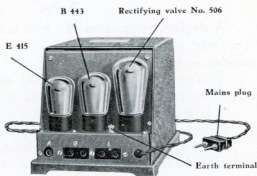

Fig. 2
The cover is first removed by pushing it backwards and then lifting it out. The earth terminal indicated by sign "⏏" is connected to earth. The diagram (fig. 2) shows where the valves, packed with the set, are to be installed, after which the cover is replaced.
The aerial must be connected to socket "A" (fig. 2) with the aid of the plug which is supplied with the set. The loudspeaker is plugged into the 2 sockets on the right hand side marked
"L" (fig. 2). The two pin mains plug is then inserted into a mains socket.
The pick-up must be connected to the 2 sockets marked "G" (see fig. 2). Knob "T" is then turned as far as possible in the direction opposite to that of arrow and plug "V" inserted into position 1. The aerial must be disconnected.
The tone filter (A) is connected between loudspeaker and receiving set by plugging it into sockets "L" (see fig. 2). the loudspeaker plug (B) in its turn being plugged into the tone filter.